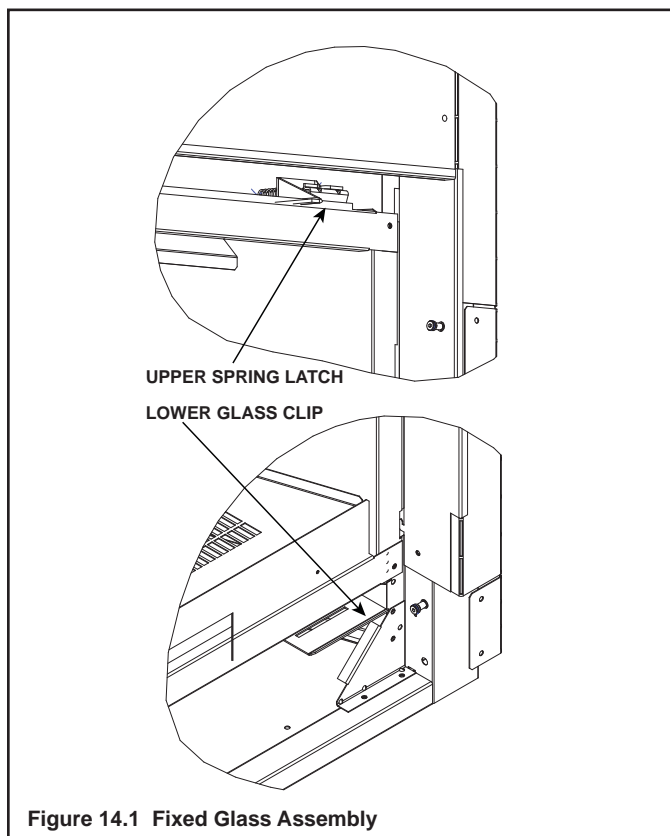

Figure 14.1 Fixed Glass Assembly
3. Use both index fingers to release spring latches. See Figure 14.1.
4. Put pressure on the glass as you allow the glass assembly to drop into the two lower glass clips. See Figure 14.1.